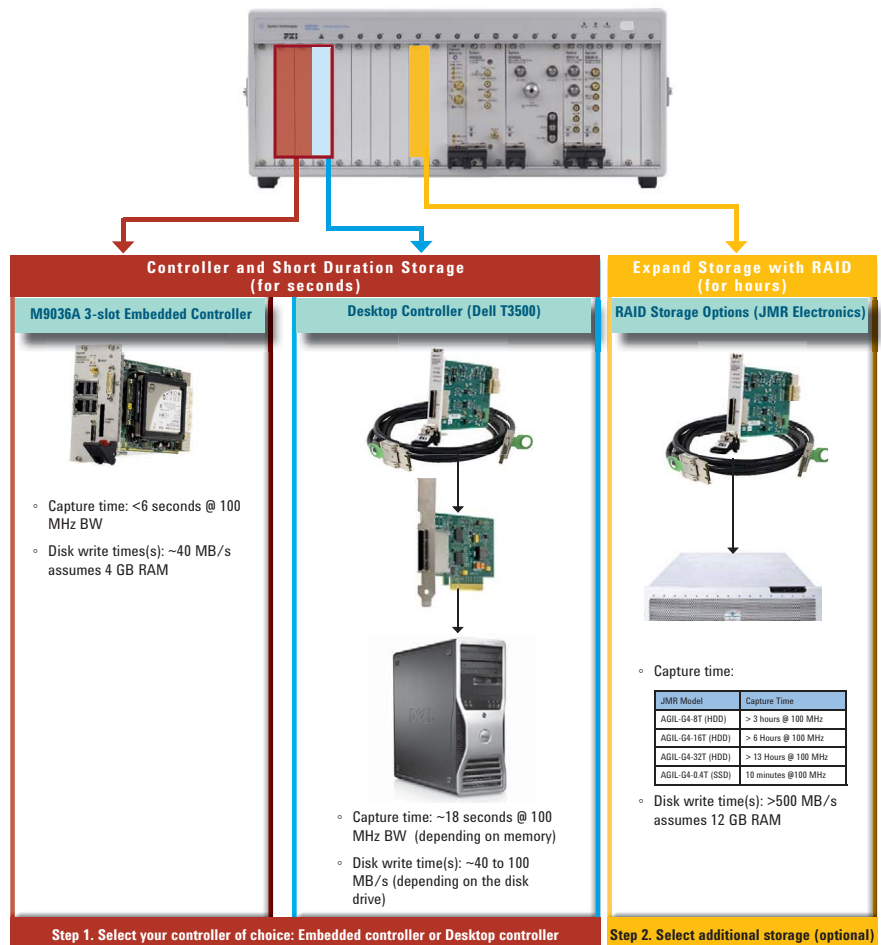

Figure 5. Configurations for RAID, Embedded Controller and Desktop PC
The Agilent M9392A solution can be used with either external RAID solutions or with the controller's disk drive depending on the data needs (Figure 5).
- Agilent's tested and recommended storage solutions are from JMR Electronics (see Figure 5 for capacity options)